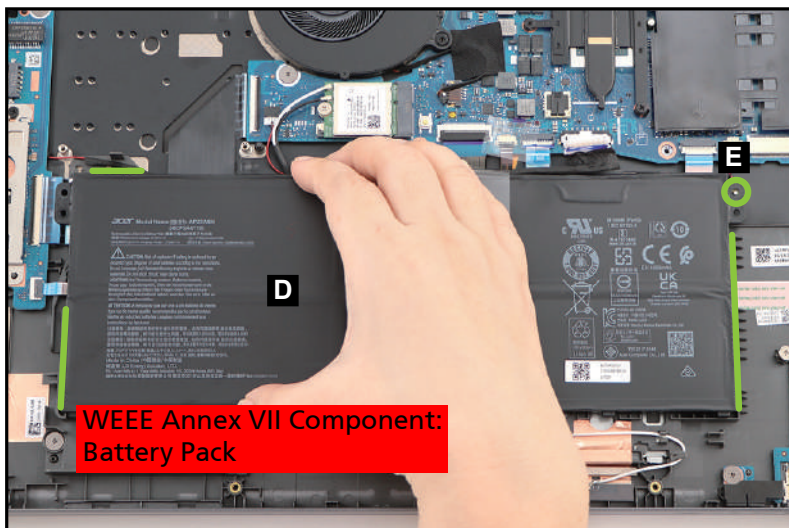

Figure 3-10. Battery Pack Removal
4. Lift to release the battery pack (D) from the guide pin (E) and compartment studs (highlighted with the green lines) (Figure 3-10). Then remove the battery pack.